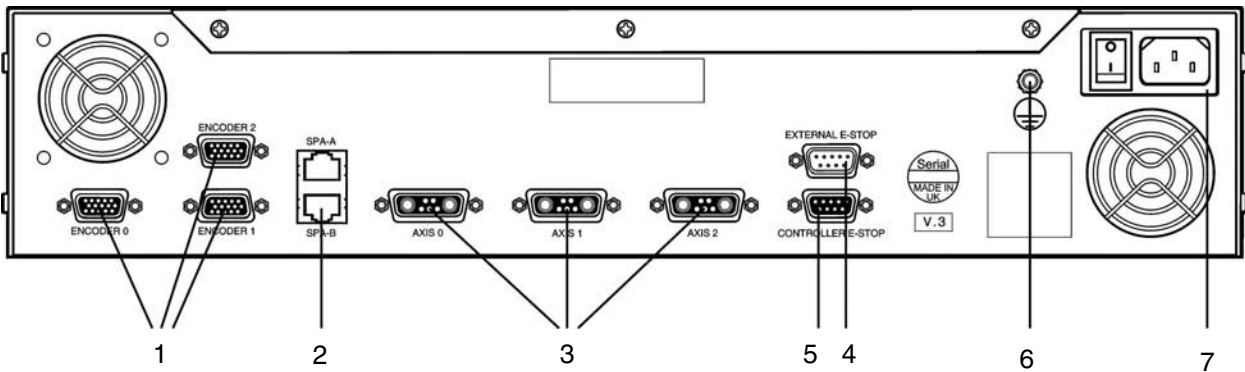

Figure 2 - SPAlite rear panel
The incoming mains supply protective conductor must be connected to the earth pin of the **SPA/ite** mains connector (refer to Figure 2, item 7) and in accordance with the relevant installation standards.
A M5 screw connector is provided on the **SPA/ite** rear panel (refer to figure 2, item 6) to permit equipotential bonding to the conductive parts of the CMM structure.